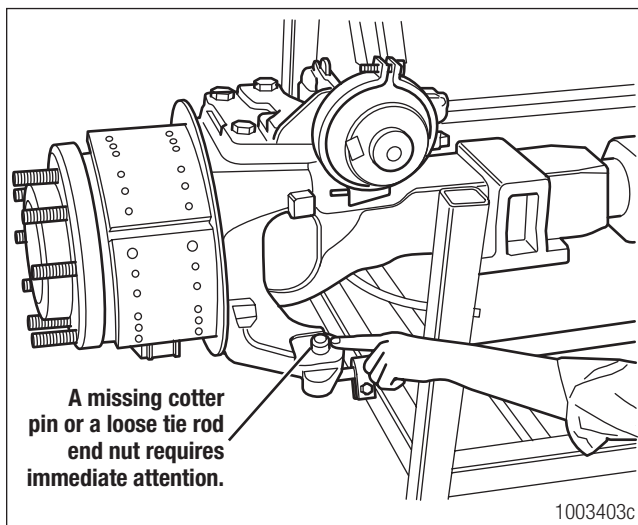

Figure 11.12
**If the cotter pin is missing:** Check the nut torque specification. Install a new cotter pin. Always tighten the tie rod nut to 300 lb-ft (407 Nm) when installing the cotter pin. Figure 11.12.